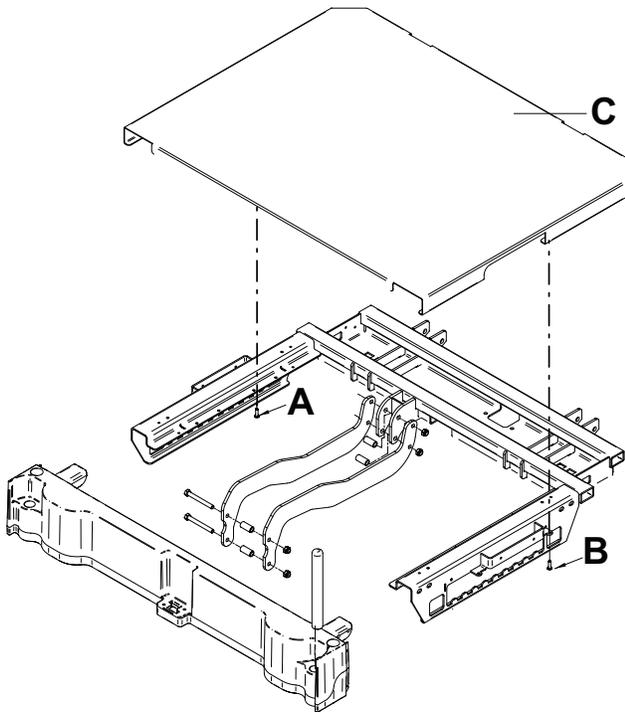

Figure 67 – Electrical cover
4. Using a #2 Phillips short screwdriver, remove the two screws (A and B) that secure the electrical cover (C) (Figure 67). Remove the cover. Save the screws.